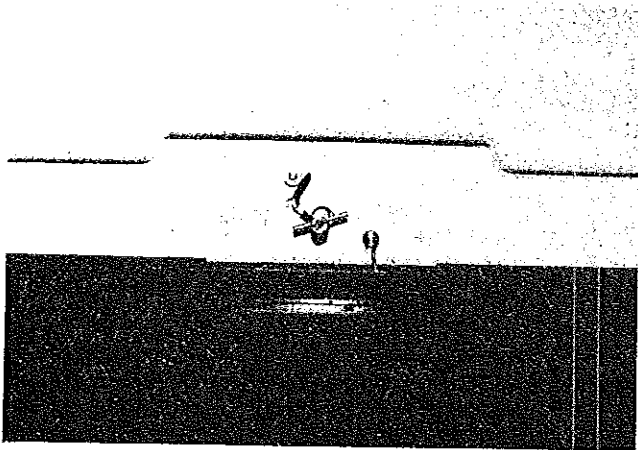
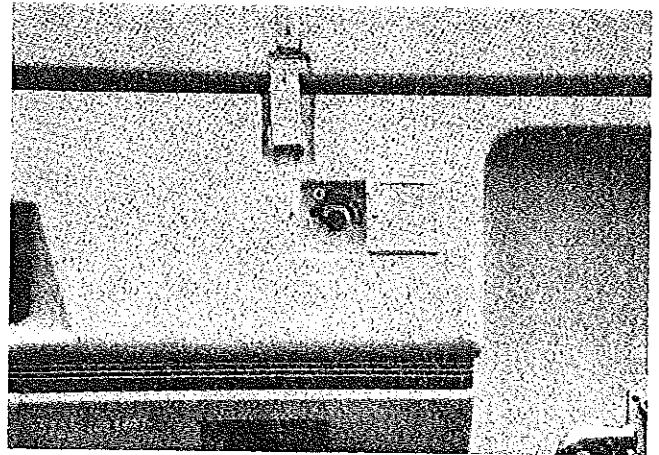

FIGURE 41
FIGURE 42
33. On Pioneer models, rotate the crank handle clockwise slightly to relieve the tension on the crankshaft hook. Disengage the crankshaft hook, turn the posi-action control handle counterclockwise to allow the top to be lowered. (See Figure 41) On Americana models, rotate the crank handle clockwise slightly to relieve the tension, turn the posi-action control handle and the safety latch counterclockwise to allow the top to be lowered. See Figures 42 and 43.